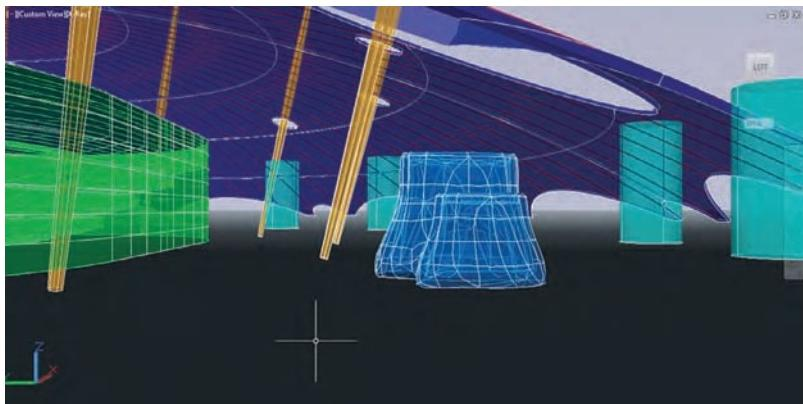

FIGURE 16.18 Looking through the camera
7. Right-click in the drawing window and choose Set Camera View from the context menu that appears. Drag the mouse wheel downward to move the camera and its target upward, as shown in Figure 16.18.